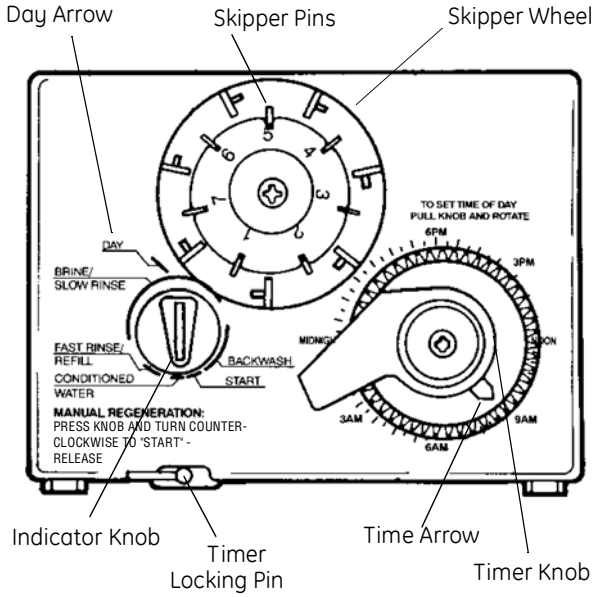
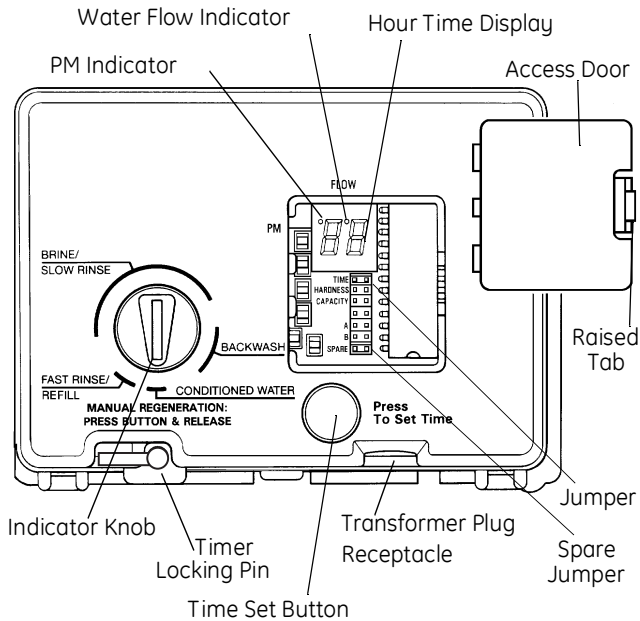

Figure 11
Figure 12
Note: The following steps will require turning the indicator knob (Figure 11) to various positions. Insert a wide-blade screwdriver into arrow slot in indicator knob and press in firmly. With knob held in, rotate **COUNTERCLOCKWISE** only until arrow or knob points to desired position. Rotation is made much easier if you grasp the camshaft with your free hand and turn it at the same time. Then permit
2. Insert screwdriver into slot in indicator knob (Figure 11). Press in and rotate knob **COUNTERCLOCKWISE** until arrow points directly to the word **BACKWASH**.
1. Set days of regeneration on skipper wheel (Figure 11).
Note: The Timer Locking Pin should always be horizontal (Figure 11) during operation.
Open the access door by pushing the raised tab on the door toward the left while pulling the tab out (Figure 12).
Note: The Timer Locking Pin should always be horizontal (Figure 12) during operation.
When abnormally high water usage exhausts your water conditioner’s capacity ahead of schedule, an extra regeneration can be achieved. Depress the indicator knob on the 440i (Figure 11) with a wide-blade screwdriver and turn **COUNTERCLOCKWISE** to **START** to initiate a regeneration. For the 460i, simply depress the indicator knob (Figure 12). It will take a few minutes for regeneration to start. A normal regeneration will take approximately two hours.